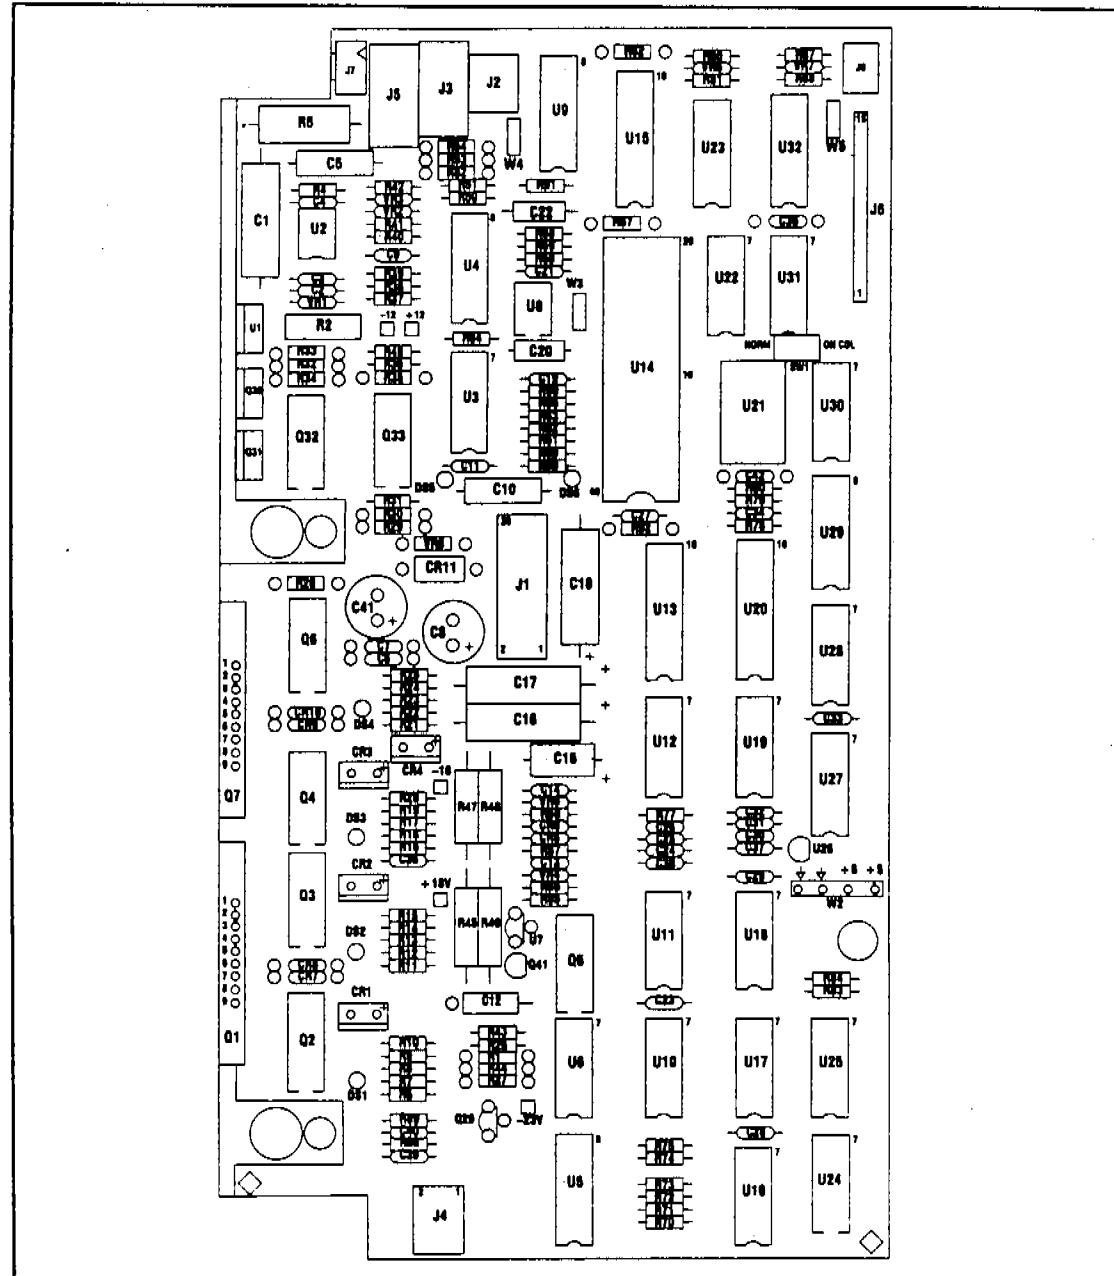

Figure C-11. Injector main board (07673-60025).
3. Hold START down to run the syringe motor continuously. Wait about 10 seconds for a response. Note the LEDs on the injector main board (figure C-11). They should light in the following sequence: